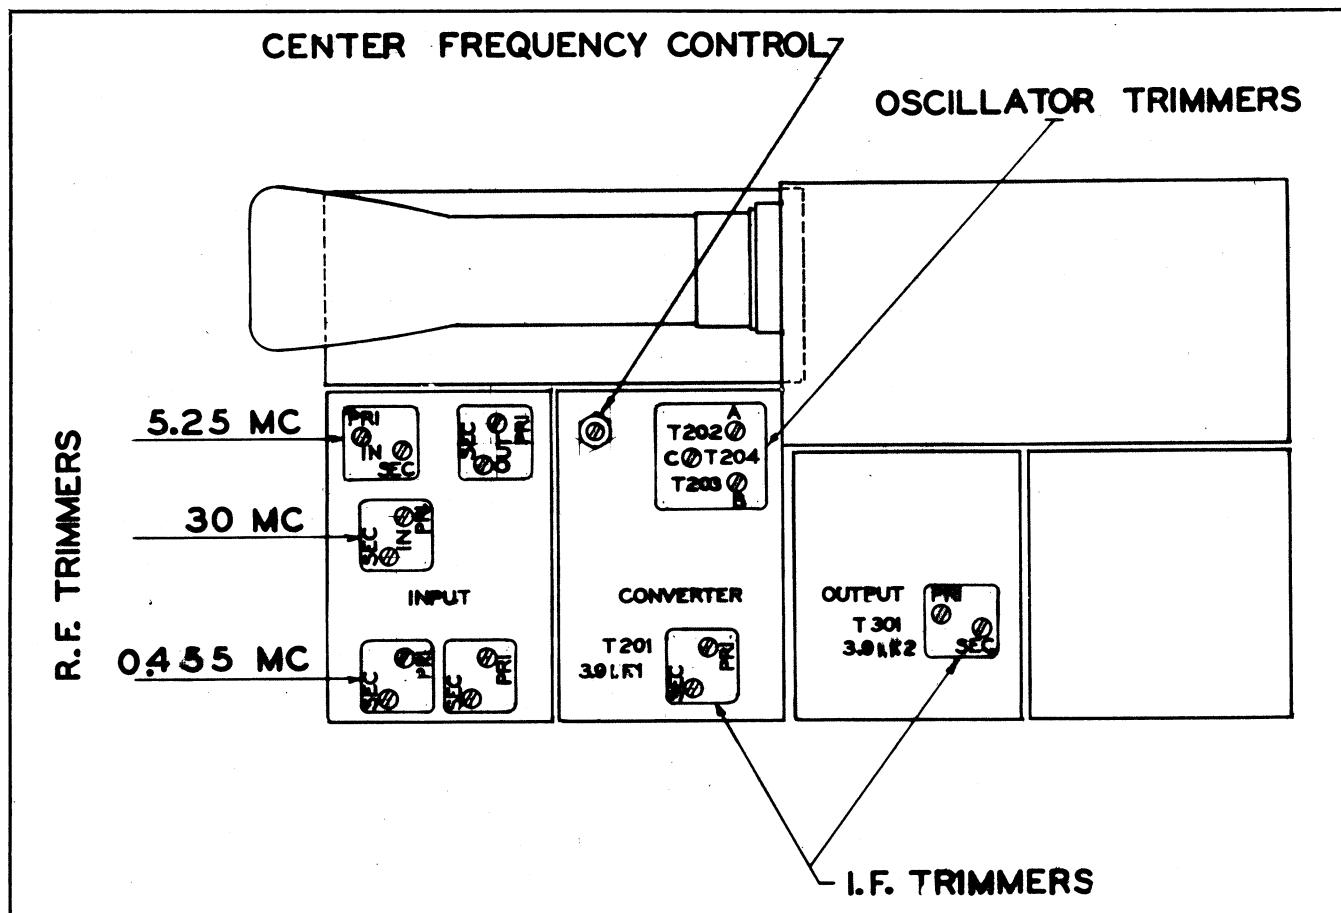

Figure 5-2. Alignment Adjustments
a. GENERAL.—The procedure outlined here should be followed since a hit or miss procedure will result in improper operation. Alignment should not be attempted by other than skilled personnel since proper operation of the equipment is dependent on accurate alignment of the various circuits. (See fig. 5-2.) Twenty trimmer adjustments and three potentiometer adjustments are provided for complete alignment of the equipment. In alignment, a signal generator with a maximum output of 1 volt and covering a frequency range from 455 kilocycles to 31 megacycles with provision for 400-cycle modulation is needed.
(1) Set "SWEEP WIDTH" control to minimum.
(2) Set "CHANNEL SELECTOR" switch to B.
(3) Feed a 3.9-megacycle modulated signal into the grid of the converter tube on chassis 2. (Apply this signal to jack pin No. 2 on this chassis.)